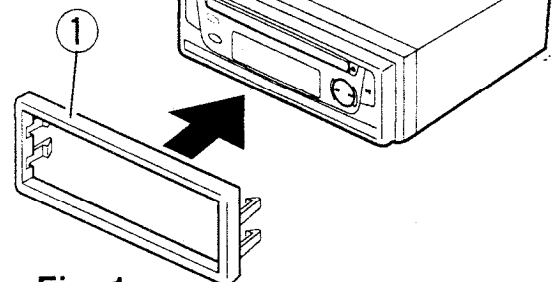

Fig. 1
1. Install the supplied trim panel (Fig.1-①) to the unit. (Fig.1-②)
2. Insert the supplied mounting bracket (Fig.1-③) into DIN-standard Cutout 182 x 53 mm in the dashboard or a console.